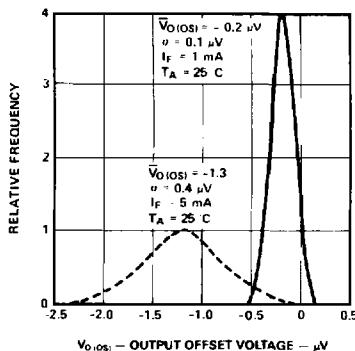

Figure 8. Output Offset Voltage Distribution.
- $V_{O(OS)}$ is a function of $I_{P(ON)}$, and is defined between pins 8 and 5 with pin 5 as reference. $V_{O(OS)}$ must be measured in a stable ambient. See Figure 8 for variation of $V_{O(OS)}$ around the typical value.